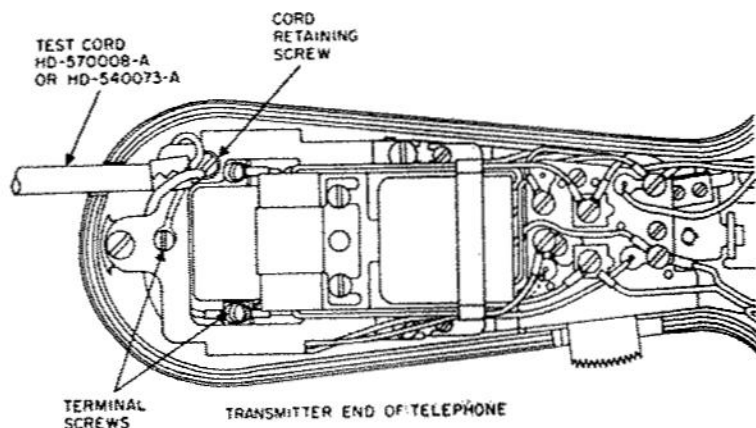

Figure 6. Test Cord Installation.
- Position the test cord leads as shown in Figure 6.